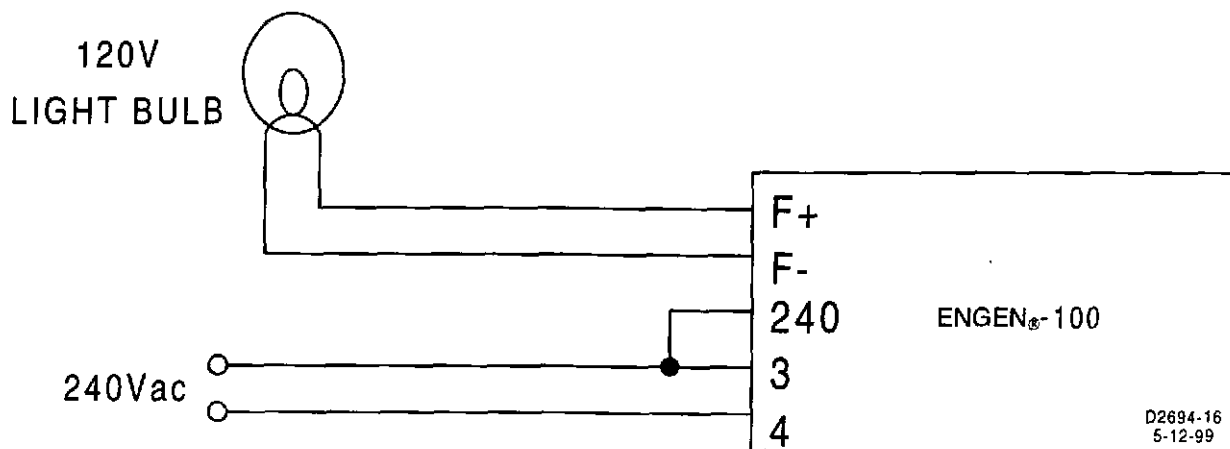

Figure 3-1. Operational Test
To operationally test the voltage regulator section of an ENGEN_®-100, refer to Figure 3-1 and perform the following steps in the order given:
1. Connect the voltage regulator as shown by Figure 3-1 and apply 240 Vac as shown.